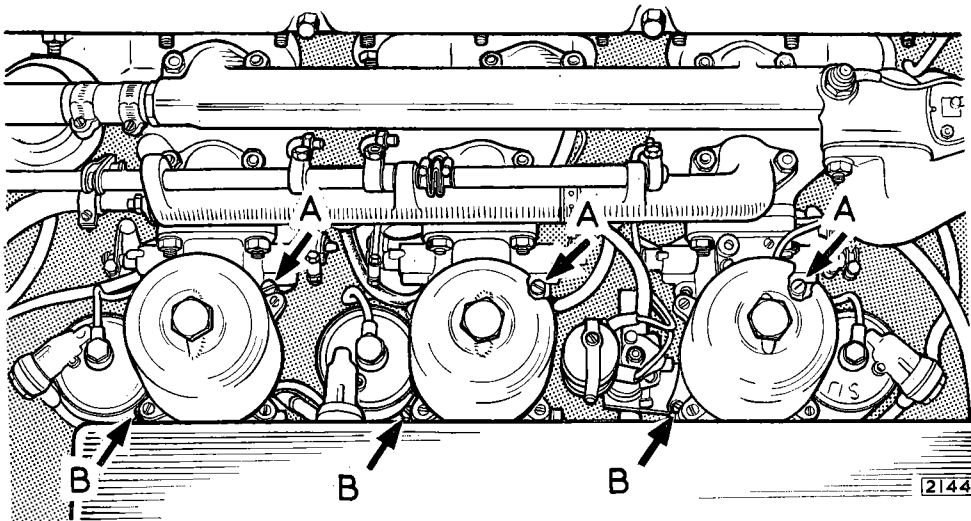
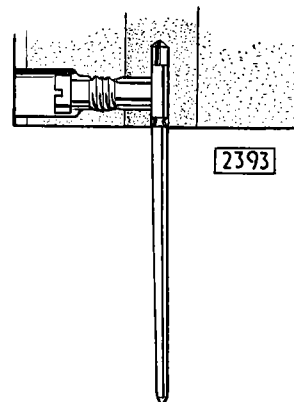

Fig. 7. "A"—Slow running volume screw "B"—Mixture adjusting screw
Fig. 9. Positioning the jet needle with the lower edge of the groove flush with the base of the piston
If adjustment is required turn the three slow running volume screws (see Fig. 7) by **exactly equal amounts** until the idling speed, observed on the revolution counter instrument, is correct.
Screw down the slow running volume screws (A, Fig. 7) on to their seatings and then unscrew two full turns. Remove the piston and suction chambers, ensure that the needles are correctly located in the piston, that is, with the lower edge of the groove flush with the base of the piston (see Fig. 9). Unscrew the mixture adjusting screws (B) until each jet is flush with the bridge of its carburettor. Replace the pistons and suction chambers and check that each piston falls freely on to the bridge of its carburettor (by means of the piston lifting pin). Turn down the mixture adjusting screws $2\frac{1}{2}$ turns.